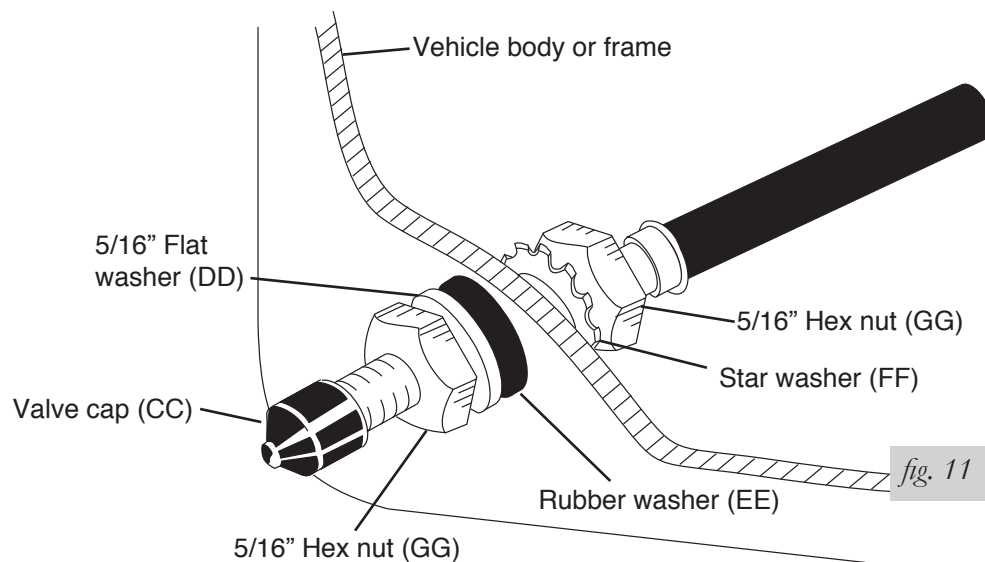

fig. 11
4. Place a 5/16" nut and star washer on the air valve. Leave enough of the inflation valve in front of the nut to extend through the hole and have room for the rubber washer, flat washer, and 5/16" nut and cap. There should be enough valve exposed after installation—approximately 1/2"—to easily apply a pressure gauge or an air chuck (fig. 11).
5. Push the inflation valve through the hole and use the rubber washer, flat washer, and another 5/16" nut to secure it in place. Tighten the nuts to secure the assembly (fig. 11).